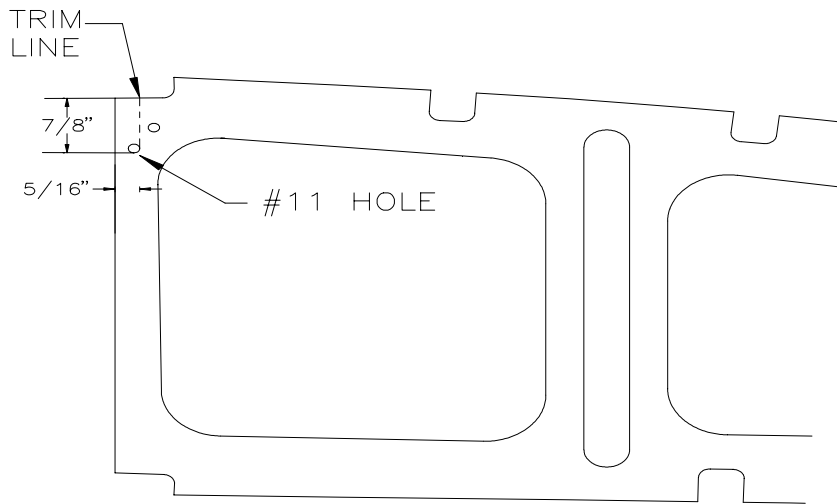

Figure 8.3.4
- 12) Repeat for all thirteen ribs. Ribs #4,5,6 and 7 will interfere with the 43” Spar Cap (W-138) and will have to be trimmed as in Figure 8.3.4.
- 18) Measure and cut a relief, (similar to that of figure 8.3.4, but on the bottom of the rib) into Main Ribs #5 and #6 to clear the new spar cap. Debur.